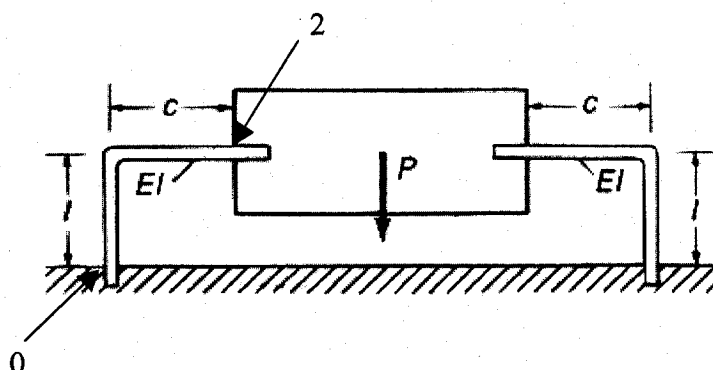

Figure 4.
4. A fatigue testing machine is to be designed based on the principle of electromagnetism, where a test sample is subjected to cyclic displacement when connected to a magnet that moves in the presence of an alternating electromagnetic field. The magnet is connected to a base plate by two L-shaped springs, as shown in Figure 4, of vertical height  $l$  and horizontal length  $c$ . To design the machine, the relationship between the electromagnetic force  $P$  and the resulting vertical displacement of the magnet is required, as are the reactions at the support joints. The joints at points 0 and 2 can be considered to be built-in, and also to not allow horizontal motion. The magnet can be considered rigid and its motion will generate horizontal and vertical reaction forces and reaction moments at points 0 and 2.
- i) Derive expressions for the horizontal and vertical reaction forces and the reaction moments at the support points 0 and 2. (12)
- ii) Derive an expression for the vertical displacement of the magnet and simplify it as much as you can. (8)